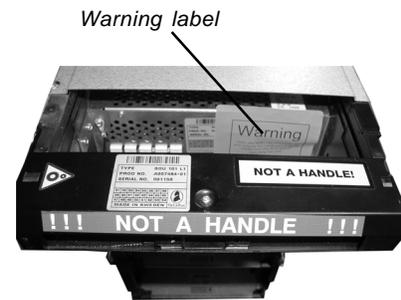

Figure 1. Warning Label.
3. Note the Warning label over the AC input connector and ON/OFF switch located on the front of the dispenser behind the throat, shown in Figure 1. **DO NOT REMOVE THE LABEL AT THIS TIME!**
7. Remove the Warning Label over the AC input connector and ON/OFF switch, shown in Figure 1.